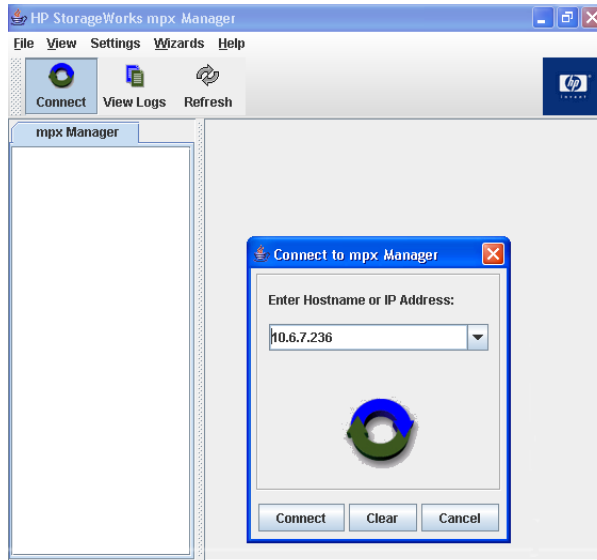

Figure 10 Setting FCIP Route settings via mpx Manager
2. Click the **Connect** icon on the top left corner of the screen, see Figure 10.